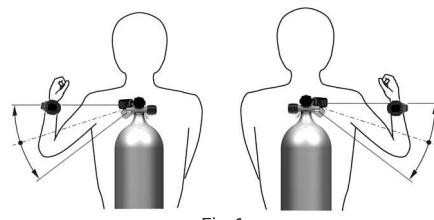

Fig. 1
The transmitter communicates with your dive computer via wireless communication. The best link between your transmitter and your dive computer is achieved when the antenna of your transmitter is parallel to the antenna of your dive computer (see Fig. 1). For best transmission we recommend:
1. The side of the first stage, to which the transmitter is fitted, should be the same side as your arm wearing the dive computer (Fig. 1).